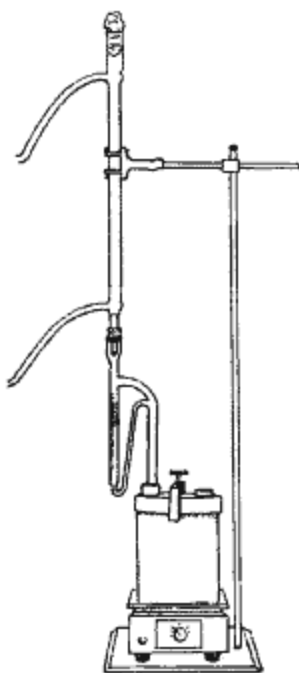

Figure 1—Typical Assembly for Determining Volatile Content of Bituminous Mixtures
- 2.1 *Metal still*, consisting of a vertical cylindrical container, approximately 5 in. (127 mm) in diameter and 6 in. (152 mm) in depth with removable lid, heavy fiber gasket, or O-ring, and a clamping system. There should be two holes in the lid, each approximately 1 in. (25 mm) in diameter to provide entry of the water trap-condenser assembly and a safety valve **as shown in Figure 1**.
- 5.7 Insert the volatile trap in the still lid making sure the lower end of trap extends away from the source of heat, and assemble the condenser as shown in Figure 1.